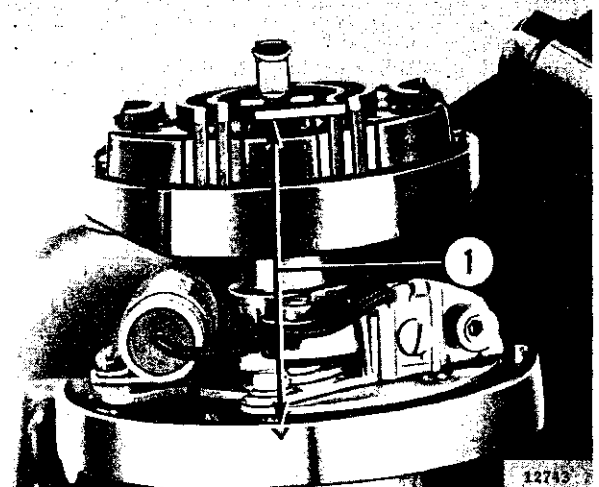

FIG. H-14—DELCO DISTRIBUTOR ROTOR POSITION
b. Make an index mark on distributor housing (Fig. H-14) in line with center of rotor. Carefully note the direction the vacuum unit points in relation to engine so that the distributor can be installed in the same position after it is serviced.
a. Insert distributor shaft into timing gear cover of engine so that rotor is pointing to mark made on distributor base (Fig. H-14), with vacuum advance unit pointing in exact, original direction (Fig. H-18).